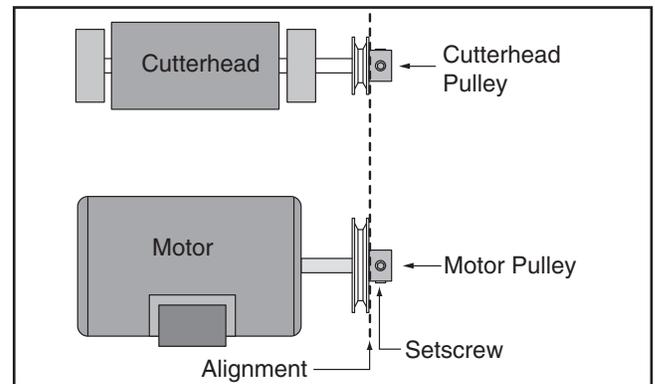

Figure 16. The pulleys should be parallel and aligned.
4. Looking from the top, sight down the V-belt and pulleys and check to see that the pulleys are parallel and aligned with each other (see **Figure 16**).
6. Tighten the set screws, replace the V-belts, and repeat **Step 4**. Belts should be parallel and aligned as shown in **Figure 16**.